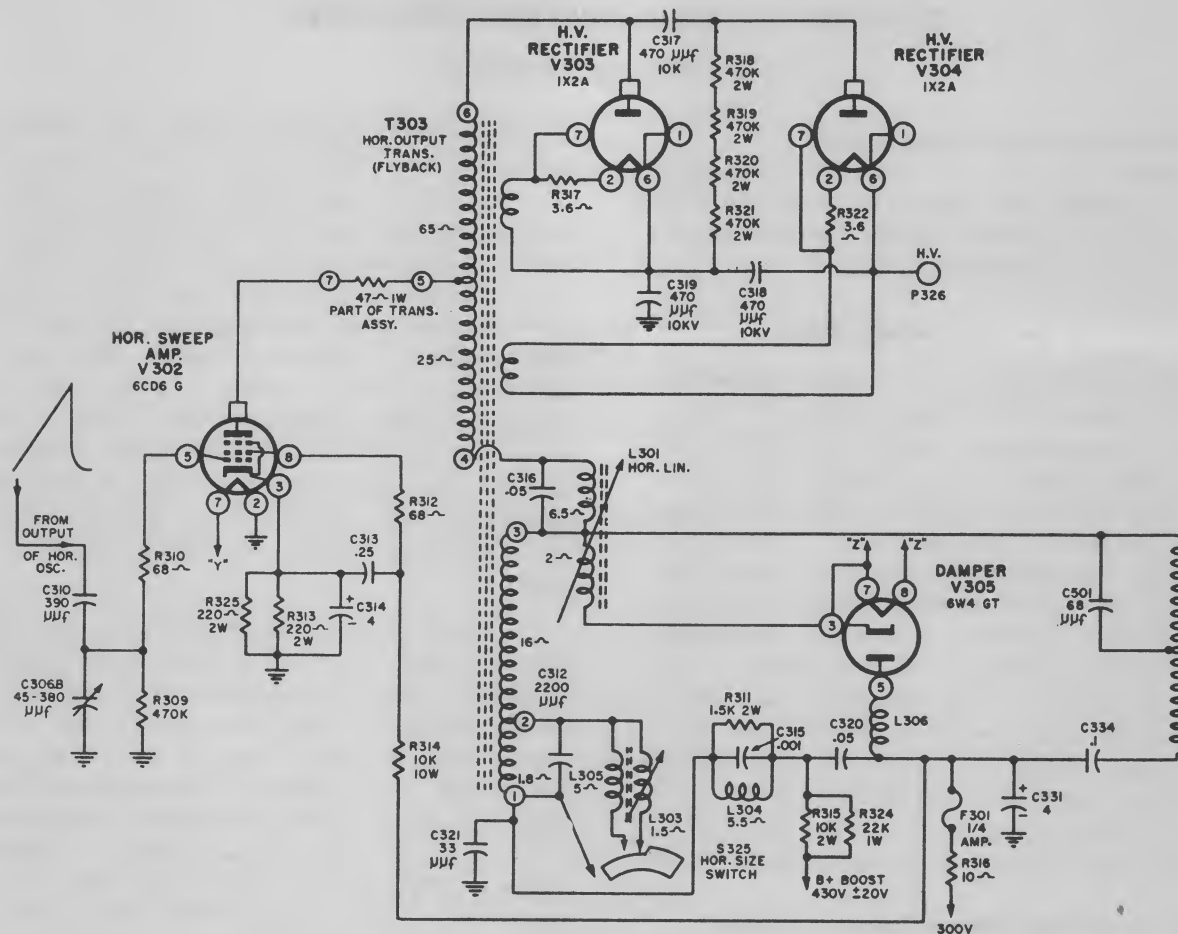
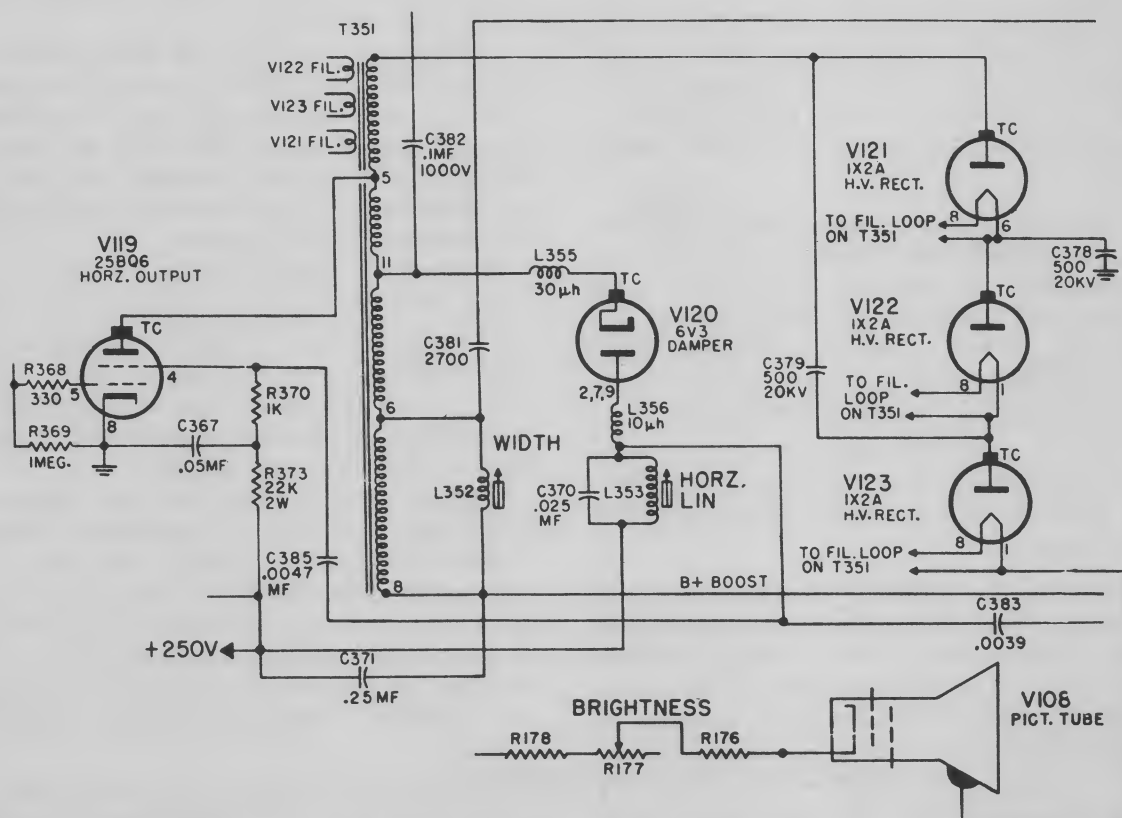

Fig. 4-1. High-voltage supply and horizontal output: DuMont RA160.
Fig. 4-2. High-voltage supply: GE Stratopower receiver.
3. TWO-TUBE VOLTAGE DOUBLER. Figure 4-1 is the schematic diagram of the DuMont RA-160 high-voltage section using a two-rectifier cascade voltage doubler. Excitation for these tubes again comes from the autotransformer section of the horizontal output transformer in the plate of the horizontal output tube. The output of this conventional voltage doubler is  $16\text{kv} \pm 2\text{kv}$ . The output voltage is distributed between C318 and C319 10-kv capacitors. The network of 470 K 2-w resistors (R318, R319, R320, and R321) supply the d-c path for charge on C317 from C319. A trouble commonly found is breakdown of these resistors due to internal arcing. R317 and R322 are 3.6-ohm filament-limiting resistors.
4. THREE-TUBE VOLTAGE DOUBLER. Figure 4-2 is the schematic diagram of a three-tube voltage doubler used in the 21-in. GE Stratopower chassis. It is excited in the same manner as were the previous high-voltage circuits. V121, V122, and V123 constitute the three rectifiers. The 16-kv d-c output is taken from
Operation of the circuit is almost the same as that of the conventional doubler. V121 and V123 take the place of V303 and V304, respectively, in Fig. 4-1. V122 replaces the resistive network of R318 through R321. This substitution eliminates the possibility of resistor arcing and also eliminates the losses dissipated by the network. In this manner an extra 1kv previously lost is made available to the circuit.
references to the plate cap of the rectifier mean the input rectifier in particular (Fig. 4-1, V303; Fig. 4-2, V121). It is possible further to isolate trouble in a voltage-doubler circuit by checking the doubler resistor(s) (Fig. 4-1, R318 to R321) or by checking the voltage on C319. For troubleshooting purposes it is also possible to eliminate temporarily one of the rectifier tubes from the circuit. The input tube may be eliminated from the circuit, and the lead from the transformer originally connected to the plate of the input tube is connected to the output tube plate, with all other phase connections removed. Or the output tube can be eliminated by disconnecting C317 in Fig. 4-1, or C379 in Fig. 4-2. In either case the voltage checked at the output filament of the rectifier of the circuit under test should be approximately half the total output voltage requirements.
Output plate cap to rectifier plate cap: 65 to 800 ohms; point 5 to plate cap of V121 (see Fig. 4-2).
Output plate winding: 18 to 75 ohms; points 5 to 8 (see Fig. 4-2).